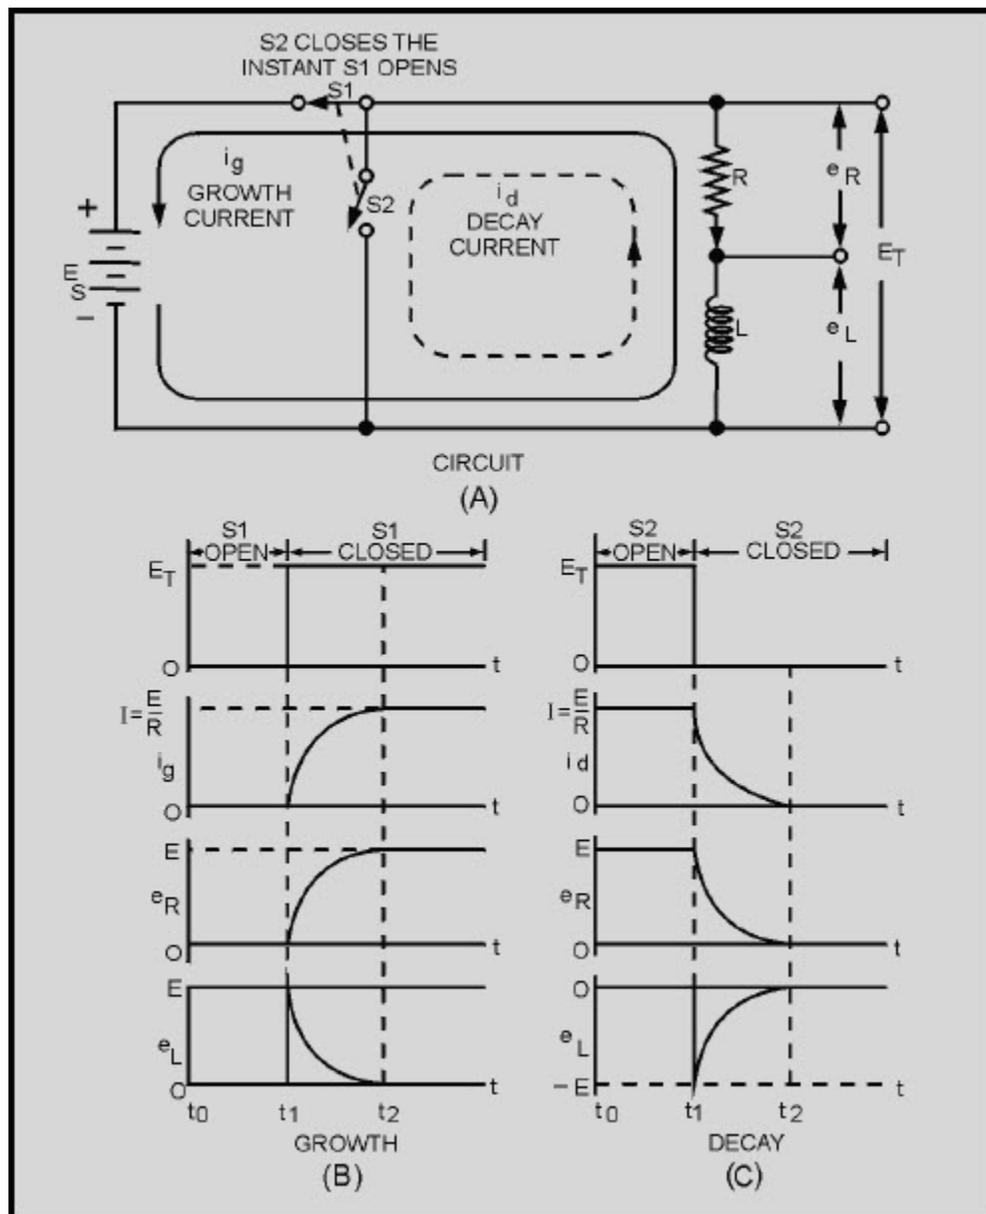

Figure 2-10 Growth and decay of current in an LR series circuit
A voltage divider containing resistance and inductance may be connected in a circuit by means of a special switch, as shown in figure 2-10(A). Such a series arrangement is called an LR series circuit.
When switch S_1 is closed (as shown), a voltage E_s appears across the voltage divider. At this instant the current will attempt to increase to its maximum value. However, this instantaneous current change causes coil L to produce a back EMF, which is opposite in polarity and almost equal to the EMF of the source. This back EMF opposes the rapid current change. Figure 2-10(B) shows that at the instant switch S_1 is closed, there is no measurable growth current (i_g), a minimum voltage drop is across resistor R, and maximum voltage exists across inductor L.
As current starts to flow, a voltage (e_R) appears across R, and the voltage across the inductor is reduced by the same amount. The fact that the voltage across the inductor (e_L) is reduced means that the growth current (i_g) is increased and consequently e_R is increased. Figure 2-10(B) shows that the voltage across the inductor (e_L) finally becomes zero when the growth current (i_g) stops increasing, while the voltage across the resistor (e_R) builds up to a value equal to the source voltage (E_s).
When the battery switch (S_1) in the LR circuit of figure 2-10(A) is closed, the rate of the current increase is maximum in the inductive circuit. At this instant all the battery voltage is used in overcoming the emf of self-induction which is a maximum because the rate of change of current is maximum. Thus the battery voltage is equal to the drop across the inductor and the voltage across the resistor is zero. As time goes on more of the battery voltage appears across the resistor and less across the inductor. The rate of change of current is less and the induced emf is less. As the steady-state condition of the current is approached, the drop across the inductor approaches zero and all of the battery voltage is "dropped" across the resistance of the circuit.
Figure 2-10(C) shows that when switch S_2 is closed (source voltage E_s removed from the circuit), the flux that has been established around the inductor (L) collapses through the windings. This induces a voltage e_L in the inductor that has a polarity opposite to E_s and is essentially equal to E_s in magnitude. The induced voltage causes decay current (i_d) to flow in resistor R in the same direction in which current was flowing originally (when S_1 was closed). A voltage (e_R) that is initially equal to source voltage (E_s) is developed across R . The voltage across the resistor (e_R) rapidly falls to zero as the voltage across the inductor (e_L) falls to zero due to the collapsing flux.